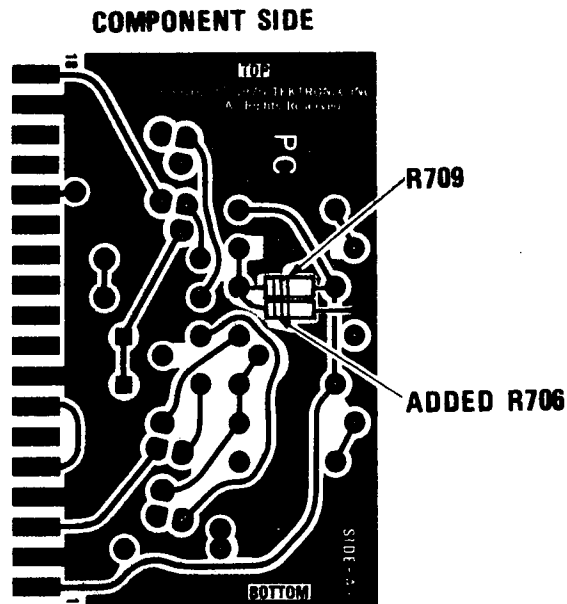

Fig. 3. Location of Added Component on Dual Beam Auxiliary Circuit Board
- ( ) 9. DUAL BEAM AUXILIARY CIRCUIT BOARD. Add one 10k $\Omega$  resistor, R706, on the component side of the Dual Beam Auxiliary circuit board as follows (refer to Fig. 3):
- ( ) B. Solder the remaining lead to ground as shown in Fig. 3.